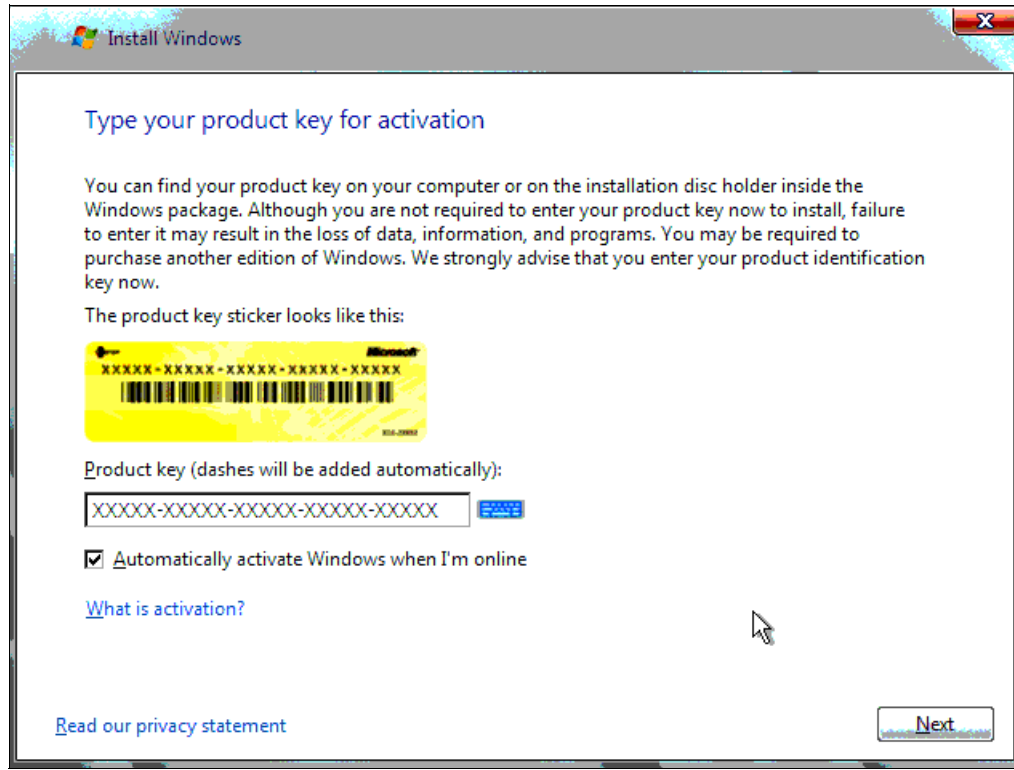

Figure 4-2 Type your product key
4. (Optional) Enter your 25-character product key on the “Type your product key for activation” panel (Figure 4-2) to avoid problems during activation. Click **Next**.
5. If you have an Internet connection, select the **Automatically activate Windows when I'm online** check box on the “Type your product key for activation” panel (Figure 4-2), if you want to activate your software now. Click **Next**.